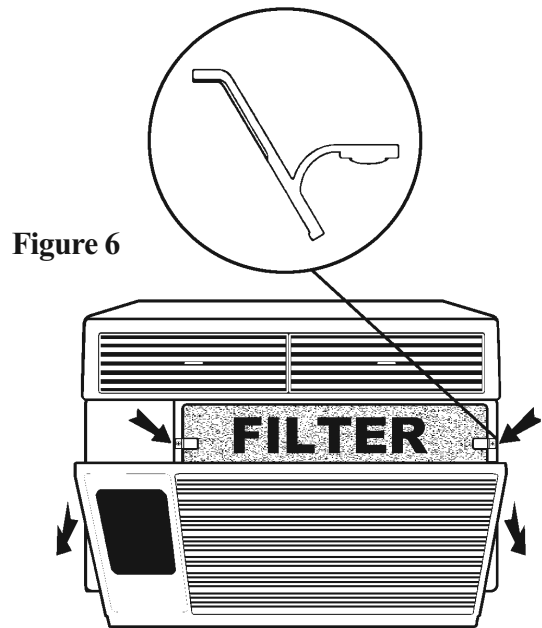

Figure 6
Open the return air (RA) grille by grasping it at the top outside edges and pulling towards you (See Figure 6). The RA grille will stay open until it is detached or closed (it is easier to completely detach the grille before closing it). To remove the RA grille, grasp it at the bottom and pull towards you.
The filter is held in place by two spring clips (See Figure 6). Push down on the clips, grasp the filter and pull towards you to remove it for cleaning. Clean with warm water and a mild detergent, rinse, dry completely and replace. **Use caution when removing the filter. The internal metal components are sharp.**